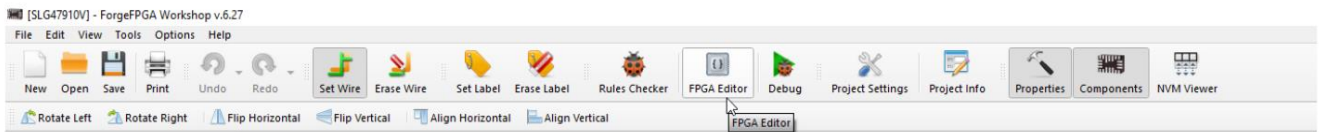

Figure 1. ForgeFPGA Tool Bar
1. Open the ForgeFPGA Workshop software in GreenPAK and select the SLG47910 device From the ForgeFPGA tool bar, select the FPGA Editor Tab (see Figure 1).